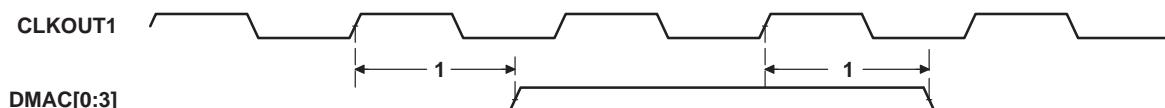

Figure 37. DMAC Timing
**switching characteristics for DMAC outputs (see Figure 37)**